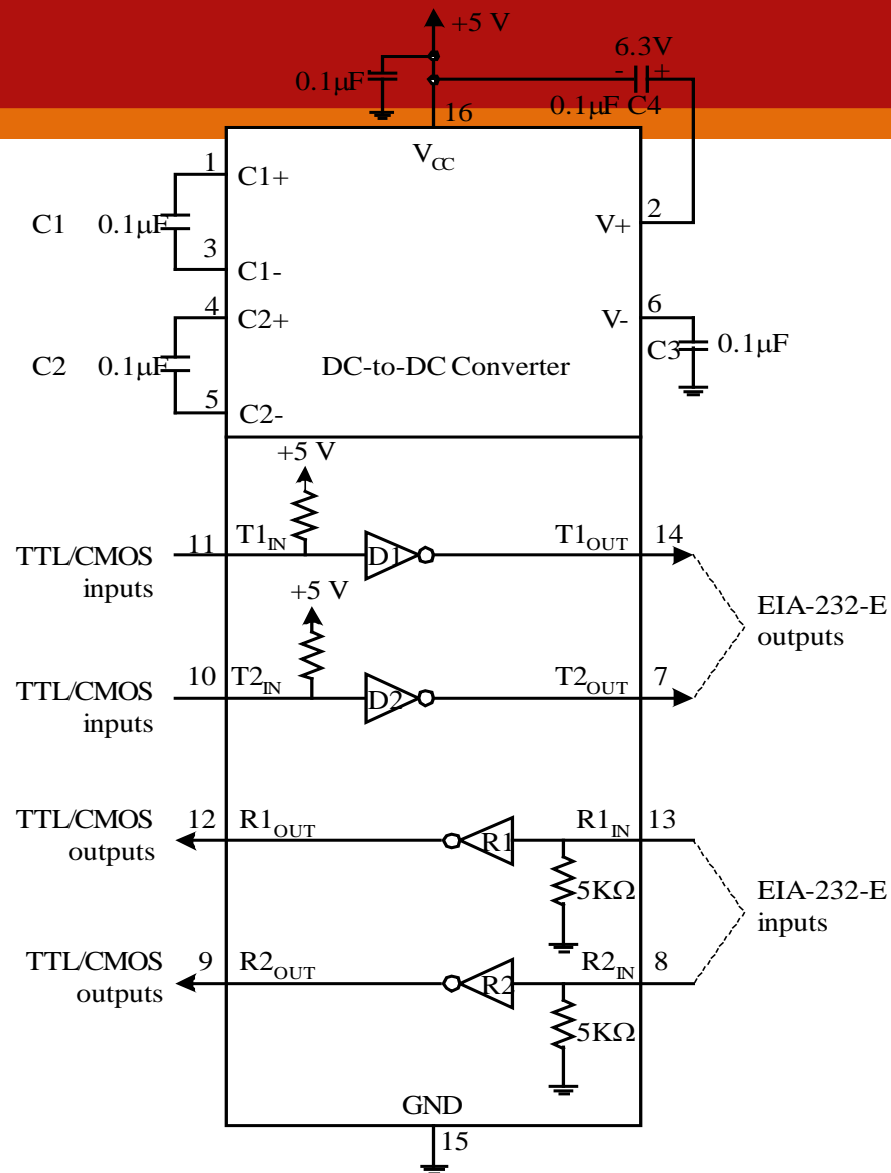

Figure 9.12 Pin assignments and connections of the MAX232A
- The pin assignment of the MAX232 is shown in Figure 9.12.